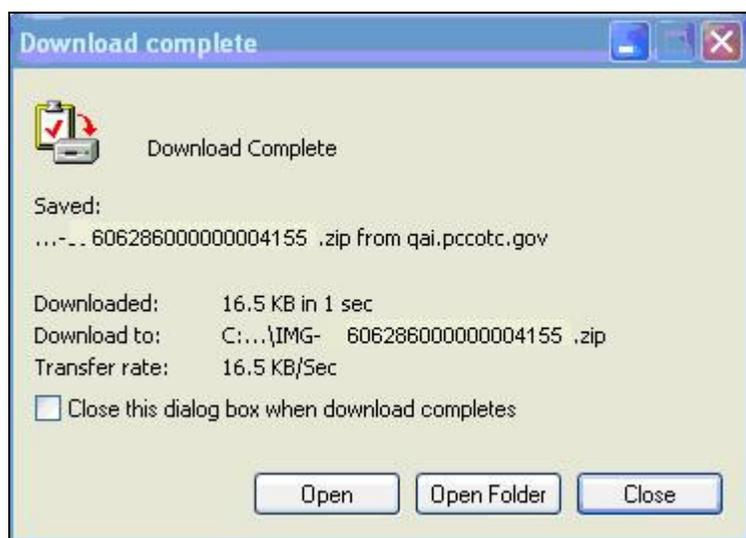

Figure 5.32.5
2. Click the down arrow in the 'Save in' field to navigate to the drive and folder on your computer's hard drive or LAN where the file should be saved. Choose the default file name or type a new file name in the 'File name' field and click the 'Save' button. A 'Download Complete' window appears as displayed in Figure 5.32.5.